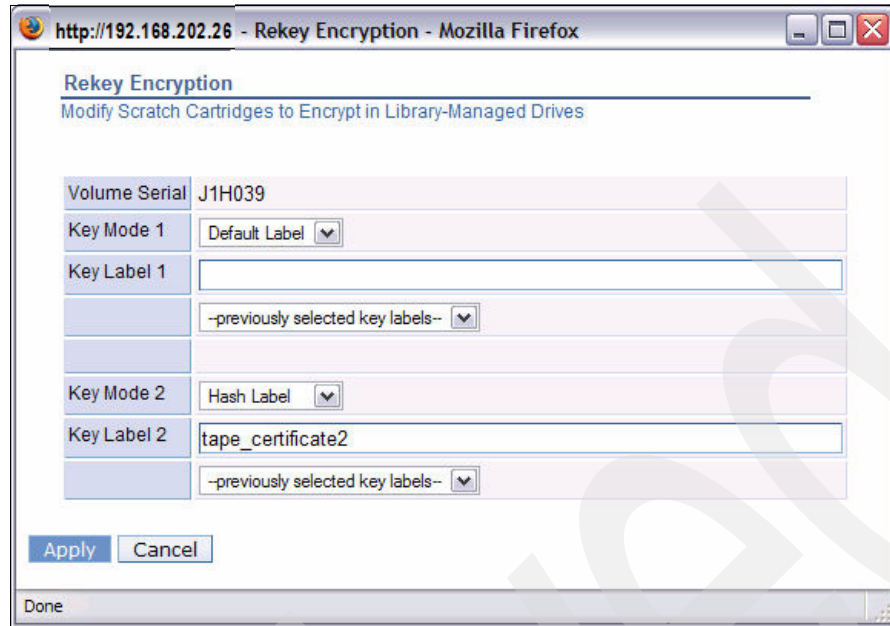

Figure 7-57 IBM UltraScalable Specialist - Rekey Encryption window
2. After clicking **Go**, new key settings can be specified for the *Key Mode* and *Key Label* for each of the two key labels used to refer to EEDK1 and EEDK2 shown in Figure 7-57. In the example, a *hash label* key mode was chosen for a new EEDK2 so that a hash computed value of the public key part of the specified "tape_certificate2" key label, for example, which refers to the imported public key certificate from the business partner, is stored within the EEDK2 instead of the clear label itself.